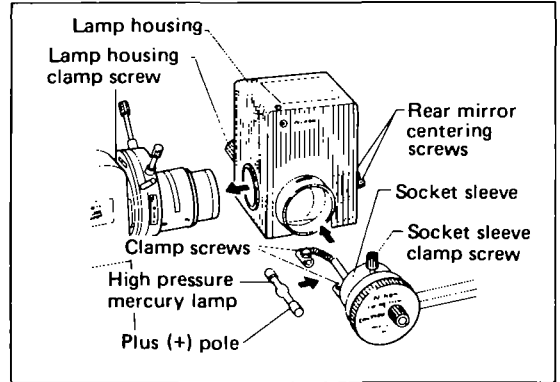

Fig. 4
2. Attaching the lamp bulb and socket (Fig. 4)
3. Attaching the lamp housing (Fig. 4)